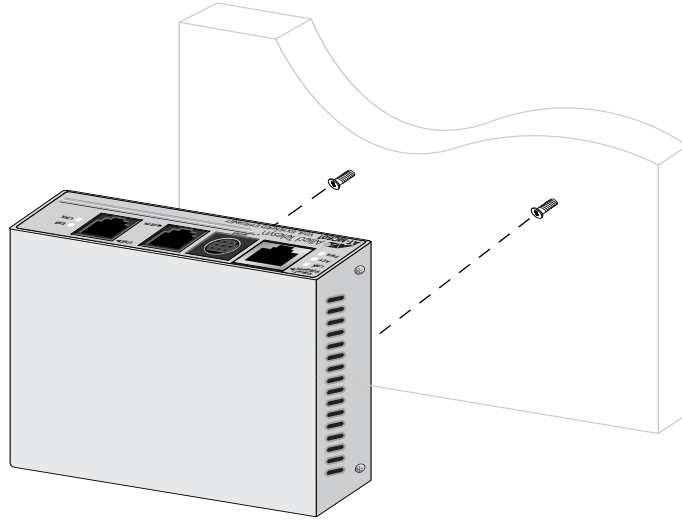

Figure 7 Installing the Screws and Plastic Anchors Onto The Wall
3. Install the screws and plastic anchors onto the wall, as shown in Figure 7.